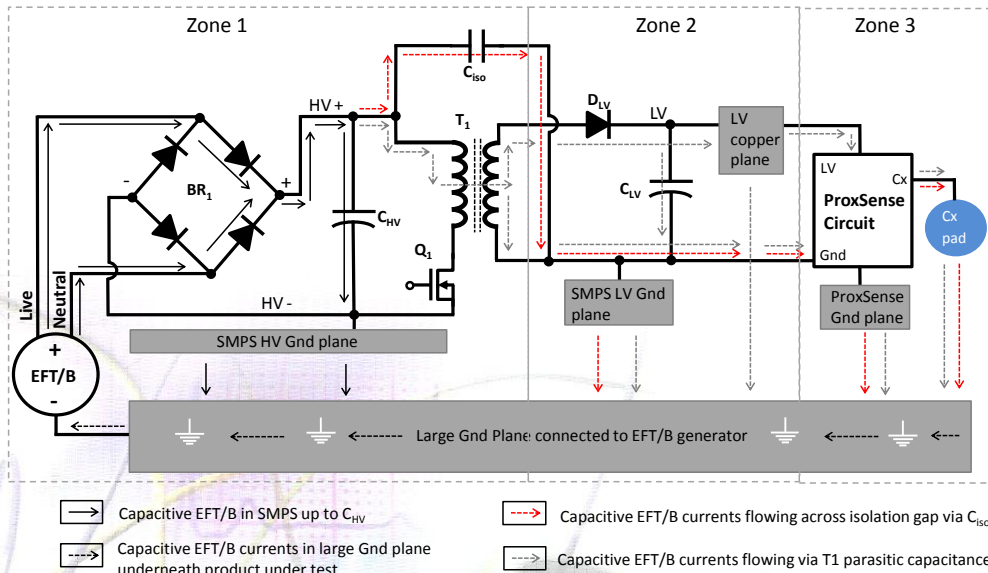

Figure 5: Possible positive polarity EFT/B current paths for an isolated SMPS, as is typical in white goods.
- Consider a typical ProxSense design powered by full diode bridge, isolated SMPS, as in Figures 5.
- Figure 5 helps to visualize how EFT/B currents injected only into Live, or only into Neutral, will potentially flow.